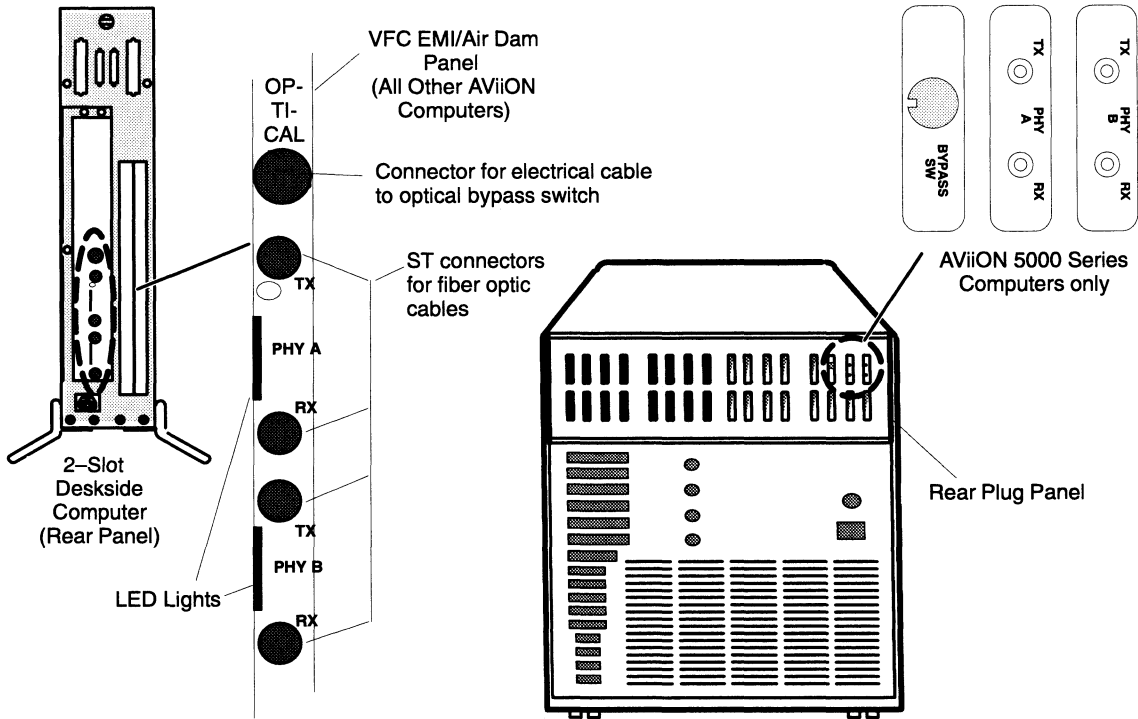

Figure 4-44 VFC Connectors
You cannot always tell by looking at the individual strands of an ST-to-ST or ST-to-MIC cable which connectors at each end are on the same strand. Some cables are labeled, but some are not. If your cable is not labeled, you can see if the bayonet connectors are plugged into the correct jacks on the board by checking the LED lights on the VFC board's air dam. If the cable strands are connected properly, ring state LEDs 3 and 4 should both be lit (see Figure 4-44 for the location of the LED lights). Table 4-13 shows the ring states as indicated by the ring state LEDs.
2. Locate the pairs of Tx/Rx jacks for Physical Units A and B (labeled PHY A and PHY B) at the rear of your computer unit. (See Figure 4-44.)
1. Locate the pairs of Tx/Rx jacks for Physical Units A and B (labeled PHY A and PHY B) at the rear of your computer unit. (See Figure 4-44.)